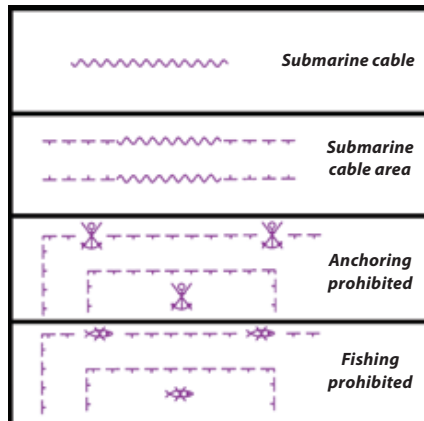

Figure 1.
- If you are going into any of these areas, be sure to check your marine charts and/or GPS plotter so you know the exact locations of the prohibited zones. The relevant charts are NZ53, NZ5322, NZ532, NZ522, NZ52, NZ42 and NZ43. The symbols used to mark the zones are detailed in Figure 1.